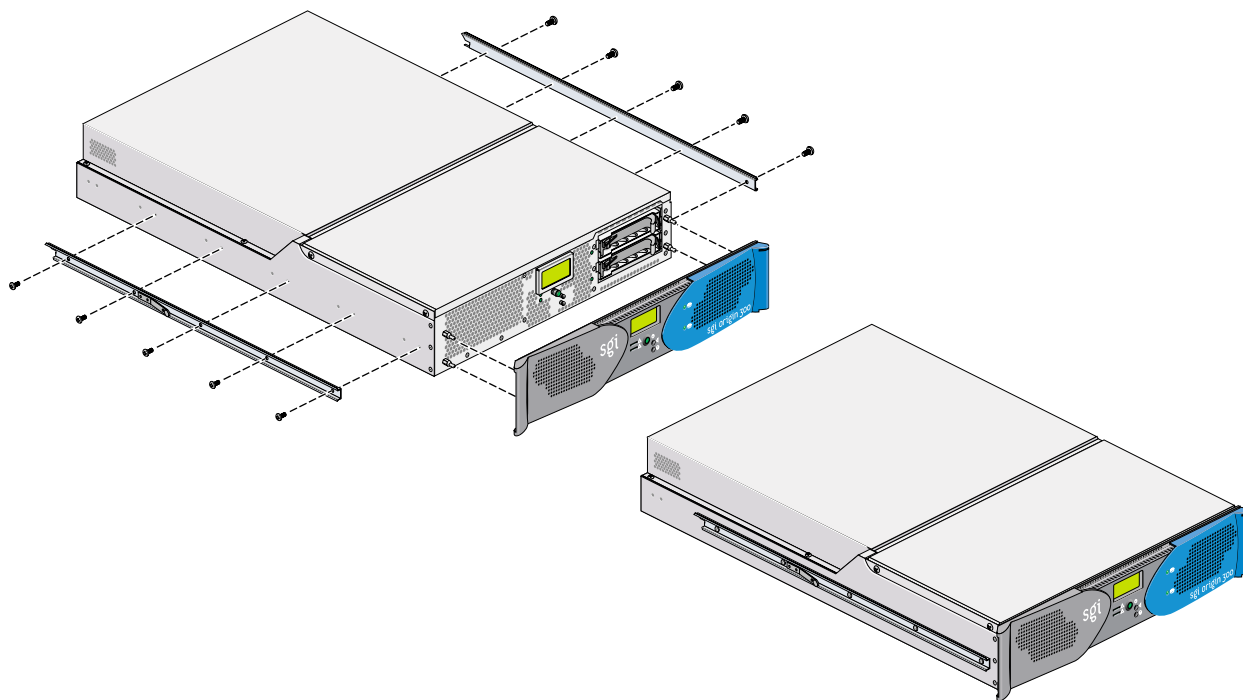

Figure 2-4 Attaching Chassis Rails to the Server Chassis
2. Using five 10-24 x 1/4" screws, attach one of the chassis rails to the right side of the server chassis. Ensure that the rail is installed in the correct direction (refer to Figure 2-4).